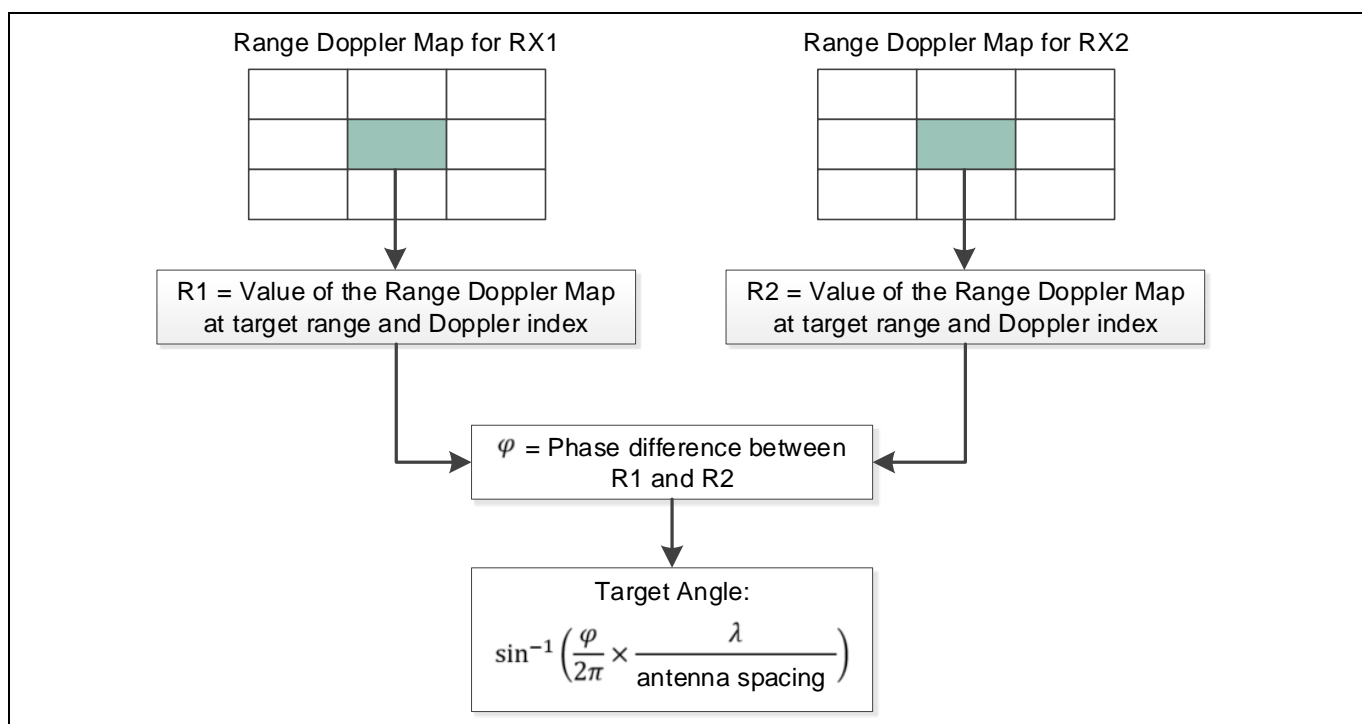

Figure 26 Monopulse angle estimation method flow
- **Angle estimation** – The Position2Go sensor comprises 1 TX and 2 RX antennas. This configuration helps with estimation of the Angle of Arrival (AoA) of the targets. A phase monopulse angle estimation method is used to compute the AoA of the targets from the range Doppler map. Figure 26 gives more details about the monopulse estimation method used for AoA estimation.